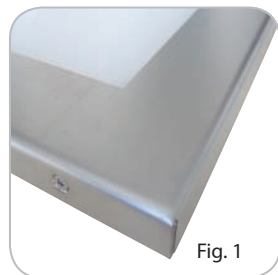

Fig. 1
- Bead blasted stainless steel (figure 1)